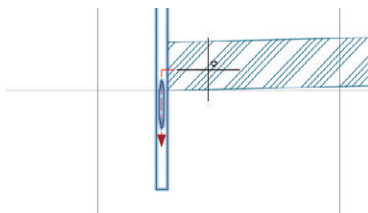

FIGURE 14.12 Editing the sump elevation of a structure using grips
14. Click the triangle grip at the bottom of the structure, and drag it upward until a red dashed line appears (see Figure 14.12). Click while this symbol is visible.